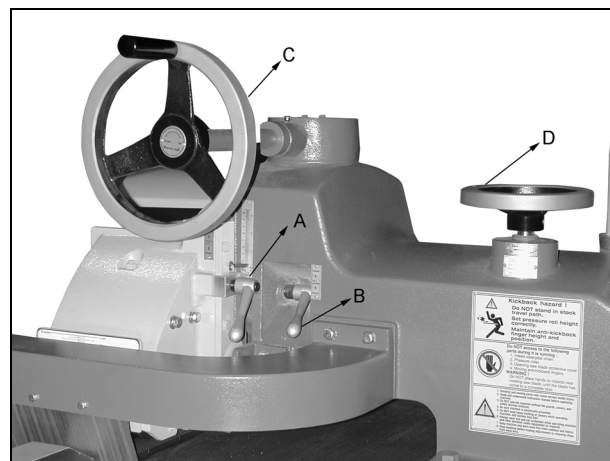
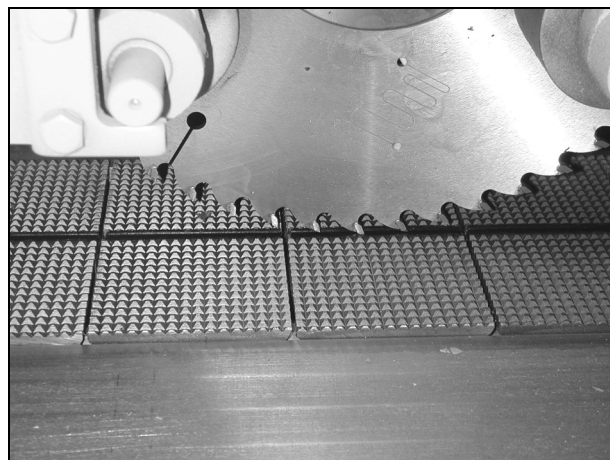

Figure 6
Figure 8
1. To remove the saw blade first loosen the arbor lock handle (B, Figure 6) and the carriage lock handle (A, Figure 6).
2. Turn the carriage height hand wheel (C, figure 6) to lower the pressure wheels to a distance of approximately $\frac{1}{4}$ " above the conveyor chain.
3. Turn the saw blade height hand wheel (D, Figure 6) to raise the saw blade to a distance of approximately $\frac{1}{4}$ " above the conveyor chain. This will prevent the possibility of damage to the blade when removing it.
1. For proper operation the height of the saw blade must be below the conveyor chain but no more than 1/16" (Figure 8). This will in effect allow the blade to cut into the rubber chain insert. This is normal. Adjust the arbor height hand wheel (D, Figure 6) accordingly.
2. Once the saw blade height is set lock into place with the arbor height locking handle (B, Figure 6).
3. Now return the carriage to it's correct height using the carriage height handwheel (C, Figure 6) and lock into place with the carriage lock handle (A, Figure 6).